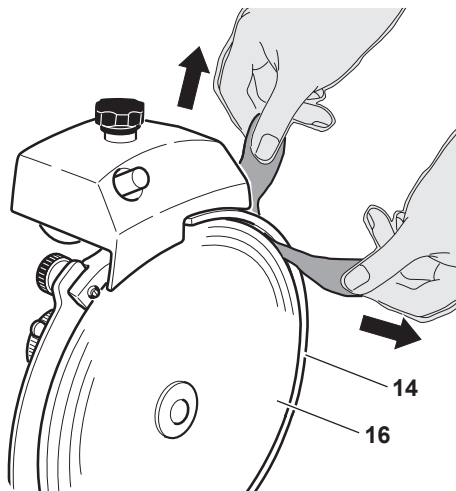

Figure 15-1
- Carefully insert the cloth between the knife (16) and knife ring guard (14). While holding the cloth between knife(16) and knife ring guard (14), work it along the inside surface of ring guard (14). Repeat this procedure as necessary (Figure 15-1).